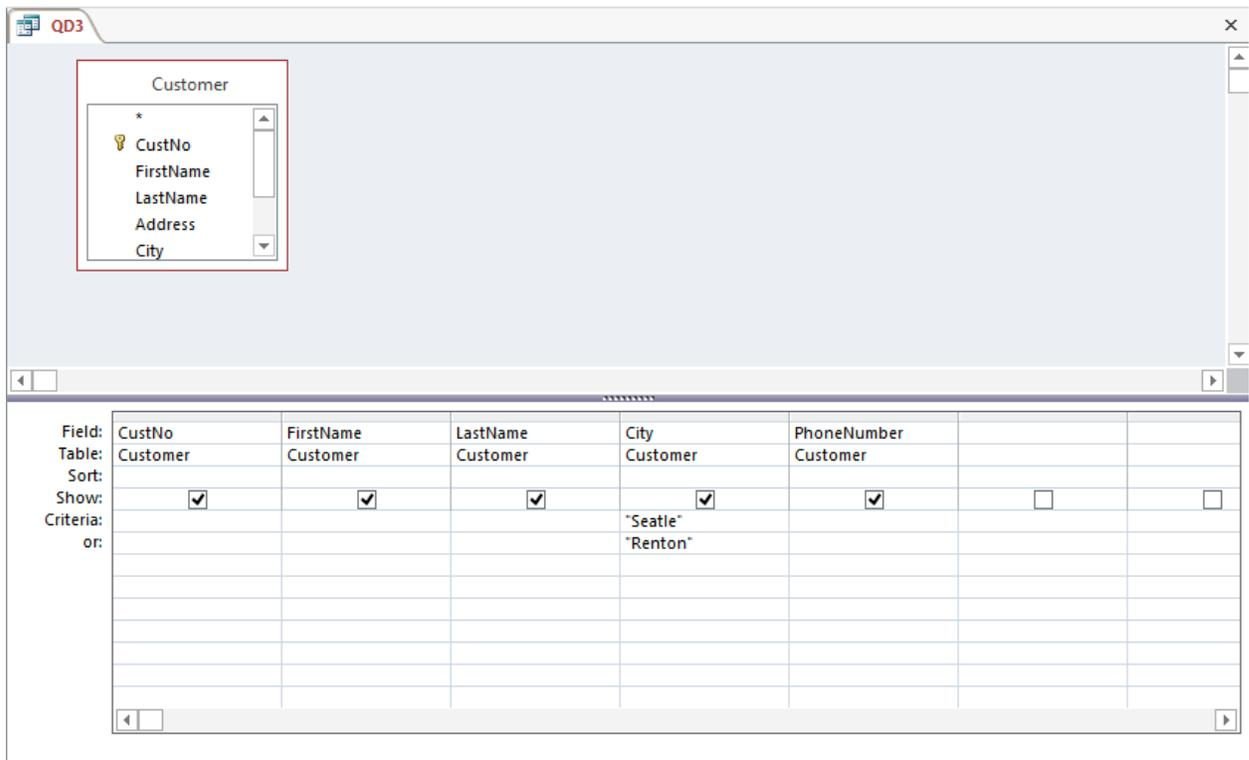

Figure 17: “QD3” with the “Seattle” OR “Renton” Criteria
7. **Enter a Condition:** Type the city name of “Renton” directly under “Seattle” in the *City* column (Figure 17). Adding a criterion in another row indicates an OR connection among the conditions. Thus, the query includes customers from either the city of Seattle or the city of Renton.